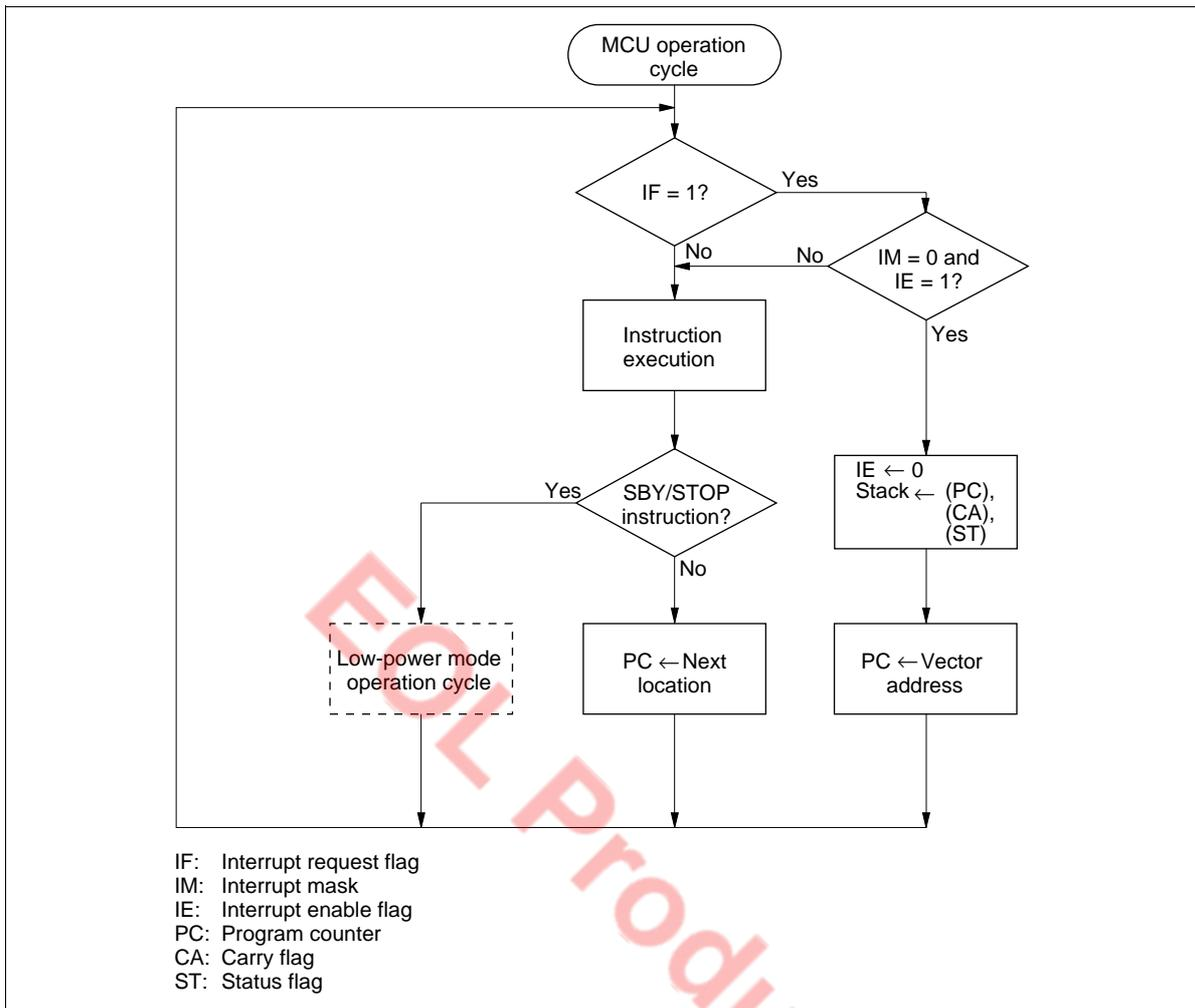

Figure 15 MCU Operating Sequence (MCU Operation Cycle)
**MCU Operation Sequence:** The MCU operates in the sequence shown in figure 15. It is reset by an asynchronous  $\overline{\text{RESET}}$  input, regardless of its status.